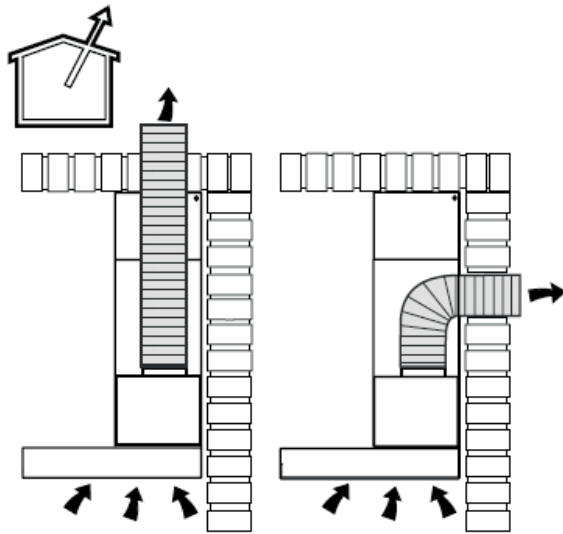

Figure 1
- either in its EVACUATION version (figure 1),
Used in evacuation version (figure 1)